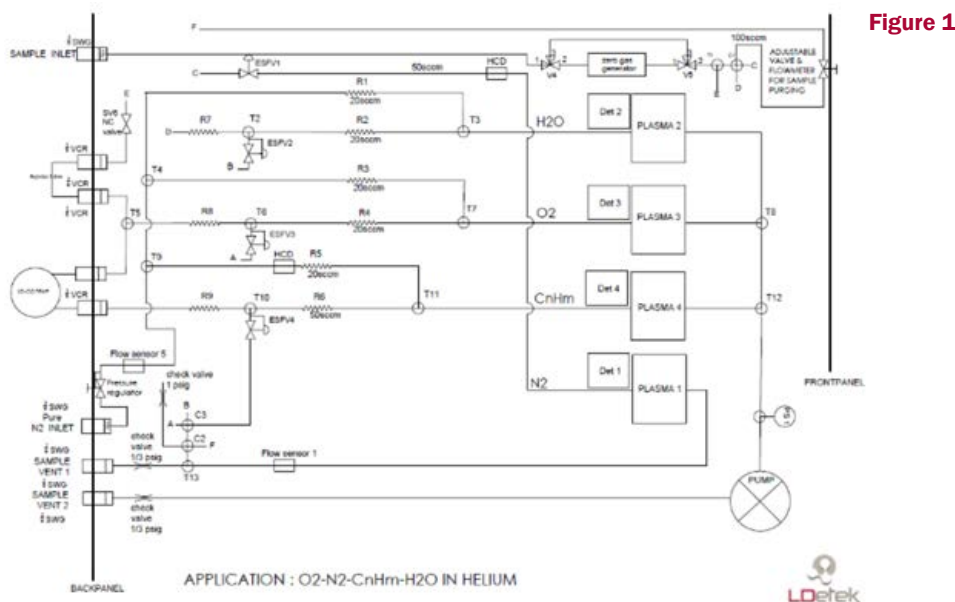

Figure 1
Figure 1 shows an installation where the required measurement must be configured for the following ranges (low to high ppm configuration):
Figure 1 demonstrates an instrument configured as follows:
- The N₂ doping input is required since the trace measurement of N₂ can reach 300ppm. The N₂ doping is then applied to the PEDs used for H₂O-O₂-CnHm measurement to eliminate the interference from the nitrogen beyond 10ppm. The nitrogen flow is generally controlled to the same value as the helium sample flow. We therefore speak of a ratio of 50% He / N₂. Figure 1 shows a value of 20sccm for 20sccm nitrogen. Total nitrogen consumption for the instrument is therefore 60ml/min. The nitrogen flow rate is controlled by static orifices pre-adjusted to a defined pressure. To ensure the stability of the nitrogen flow, a mini pressure regulator is mounted on the instrument as well as a pressure flow sensor. This assembly ensures the stability of the nitrogen flow rate which is very important for maintaining the N₂-He mixture equilibrium in the plasmas.
Photo of a configuration based on Figure 1 but for N₂-CnHm-H₂O measurements without O₂ measurement. Other configurations are based on the same mounting but with slightly different module layouts to accommodate the same 4U rack mount cabinet.
Conclusion on the configuration of Figure 1: